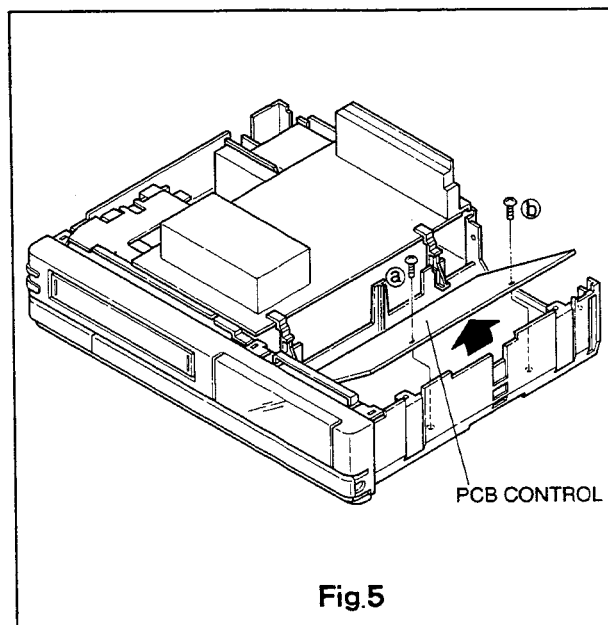

Fig.5
- c. Remove the two screws (a, b) retaining the PCB CONTROL as shown in Fig. 5.